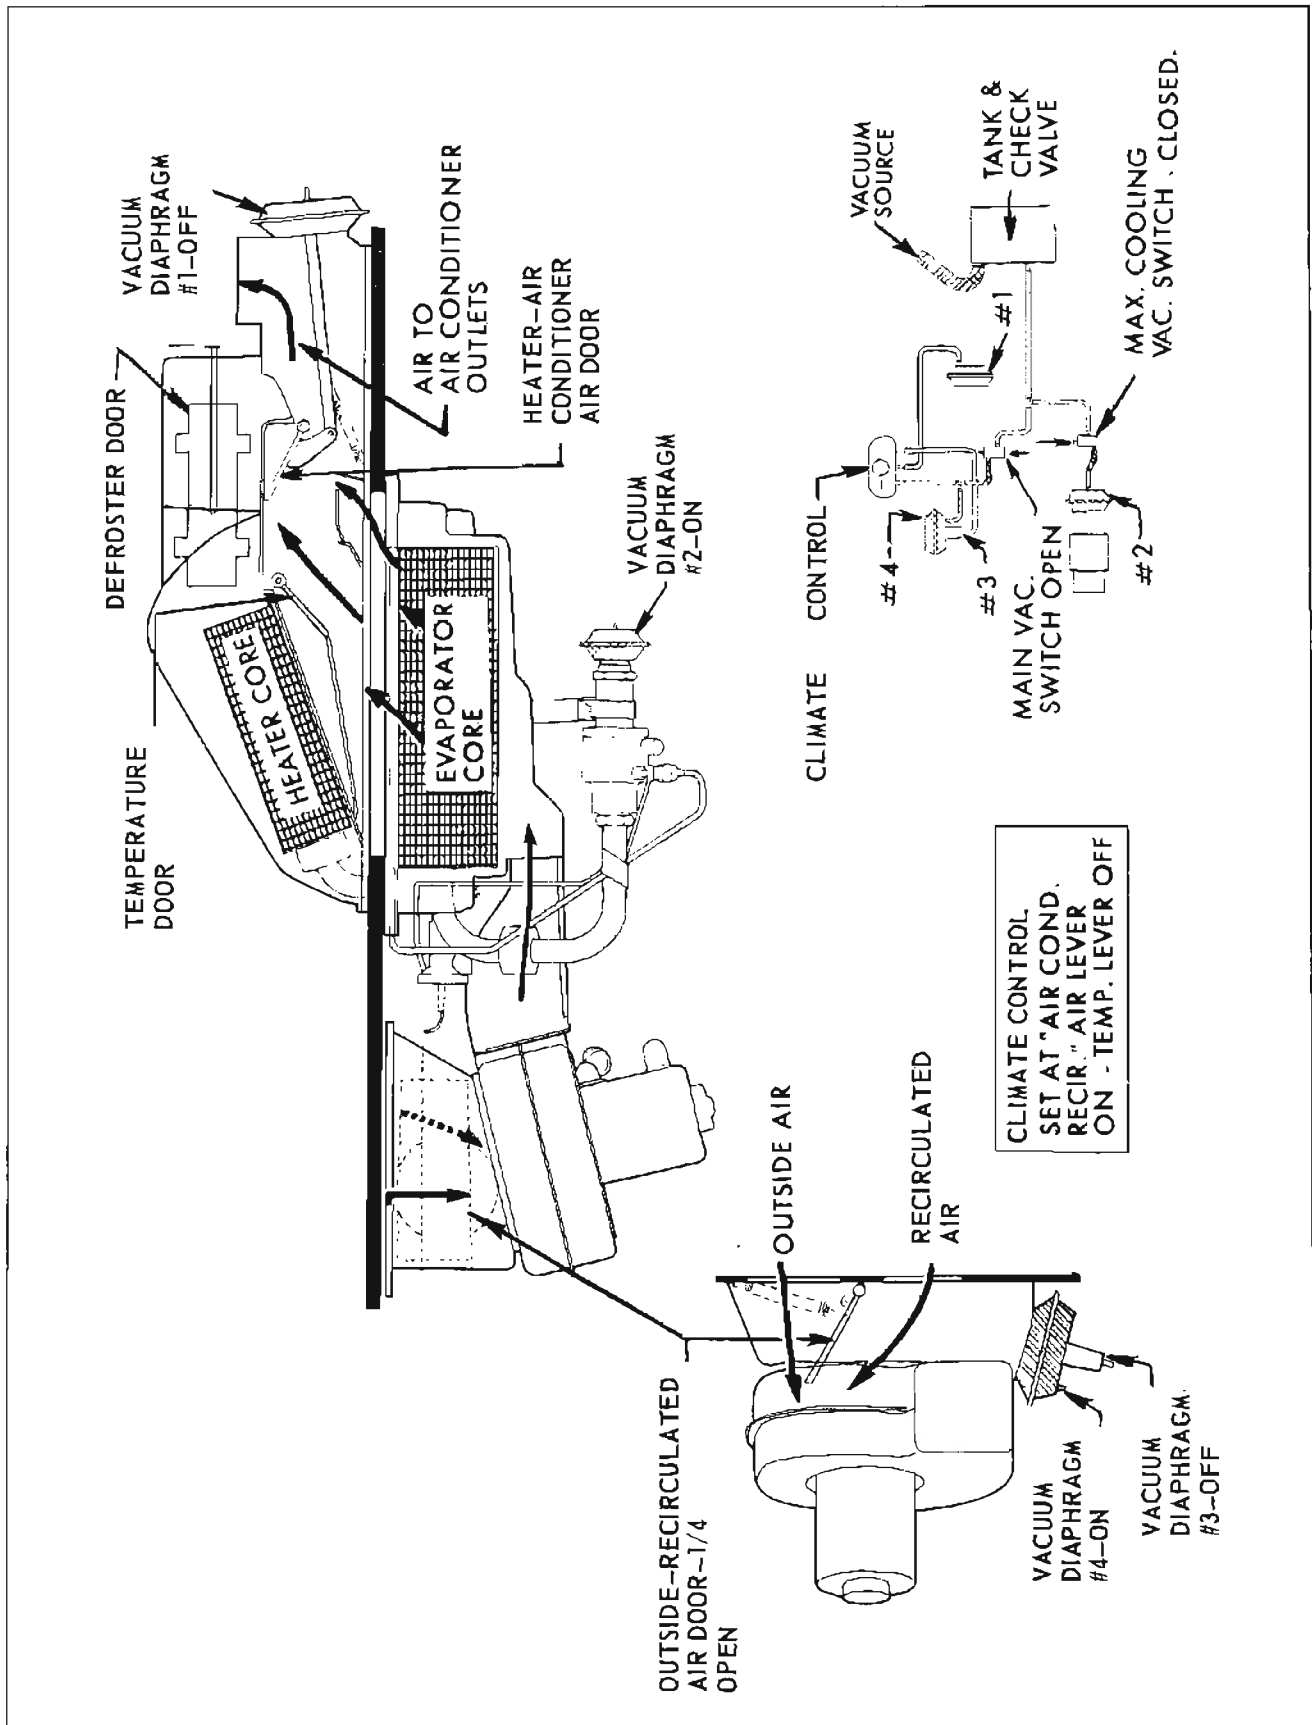

Figure 11-77—Air Conditioner Maximum, Heater Off - 4400, 4600 and 4800 Series
- The climate control is set at AIR COND NORMAL and the AIR lever is pushed on. The outside-recirculated air door is full open as vacuum is present at #3 and #4 vacuum diaphragm. See Figure 11-77. The compressor clutch is engaged and the blower is set on low-low blower speed when the AIR lever is in the first detent from off. Further movement of the AIR lever increases blower speed to low, medium and high. The suction throttle valve is set at maximum cooling as vacuum is present at its vacuum diaphragm.
- The Climate Control is set at AIR COND RECIR, Air lever full on and the TEMP lever off. The outside-recirculated air door is set at the one-fourth open position by having vacuum applied only to the #4 section of the dual stage vacuum diaphragm. See Figure 11-77. This allows 1/4 outside air and 3/4 recirculated air to mix and be directed to the evaporator. With TEMP lever off, the suction throttle valve is set at maximum cooling and no air is directed through the heater core.